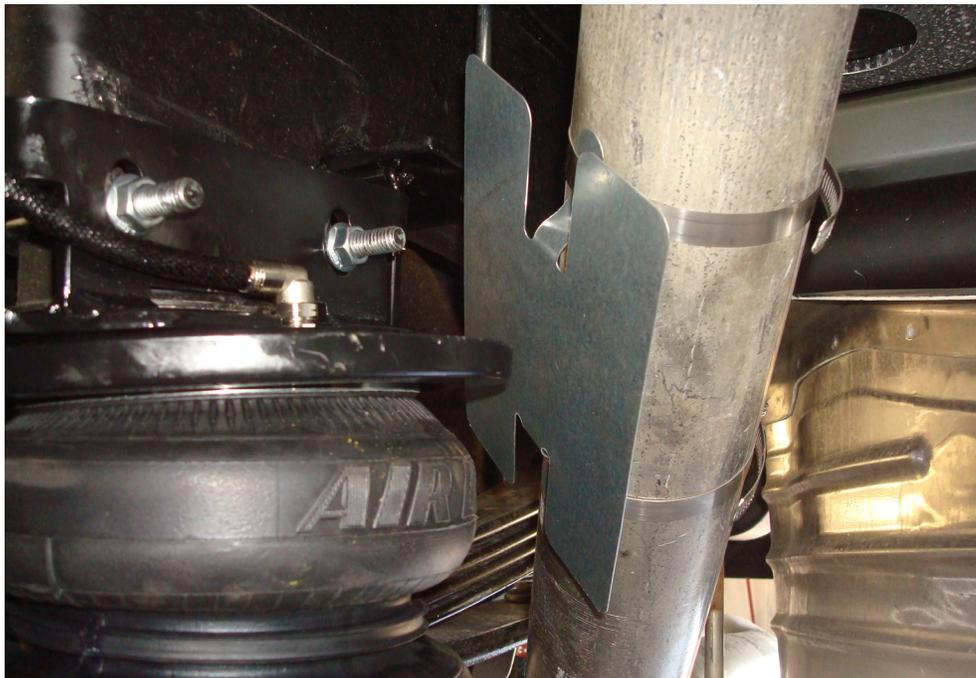

Fig. 33
2. Figure 33 shows the heat shield installed.